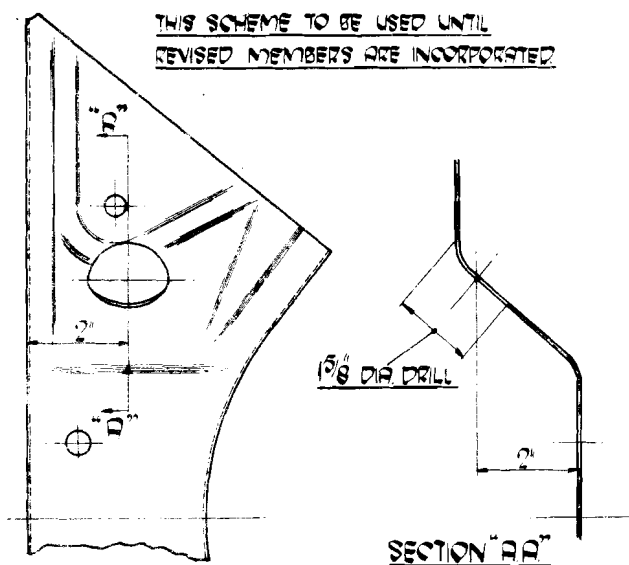

Fig. 9. Showing position of speedometer drive hole in chassis member. Chassis now being manufactured include this hole.
17. The chassis cross member, to which the overdrive unit is attached, may have to be drilled, as shown in Fig. 9, to accommodate the speedometer drive. If the Car is a recent release this provision will have already been made.